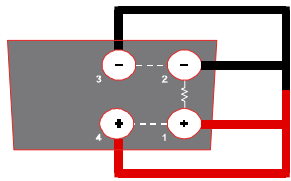

FIGURE 5
3. Short all 4 input terminals of the UUT and press the *STORE RESET* button and then the °C/°F button (See Figure 5).